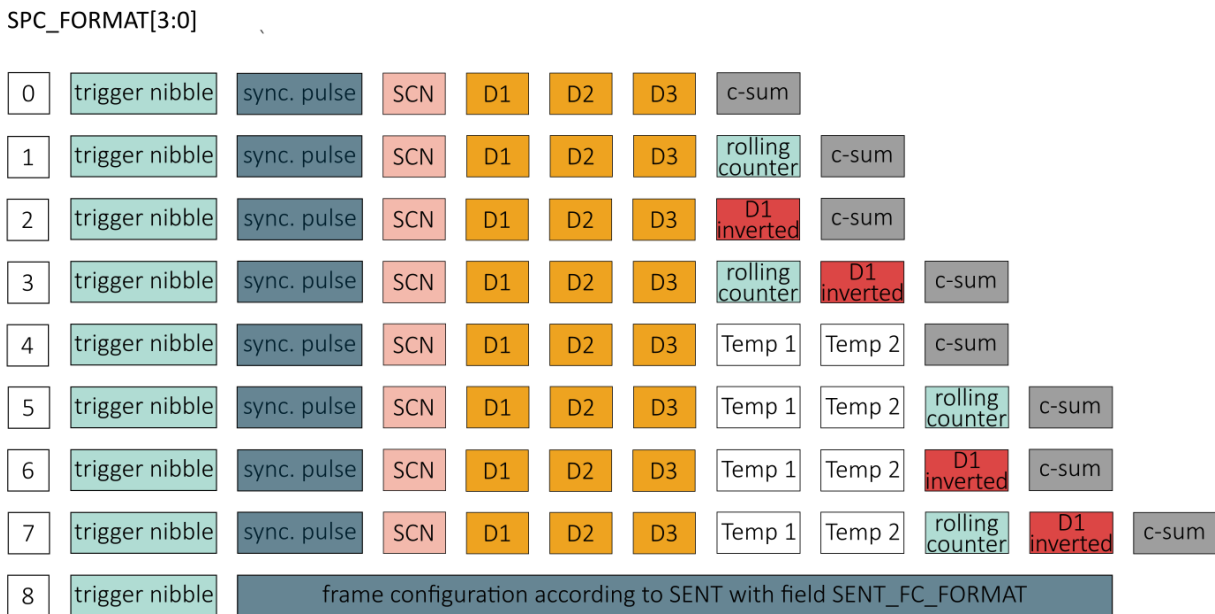

Figure 15 – SPC configurations
The MLX90513 supports all frame formats according to SPC, and can also transmit a SENT frame in response to the master trigger pulse. See Figure 15 for all the possible SPC configurations.
- SPC_FORMAT [3:0] to select the content of the data nibbles (see Figure 15)